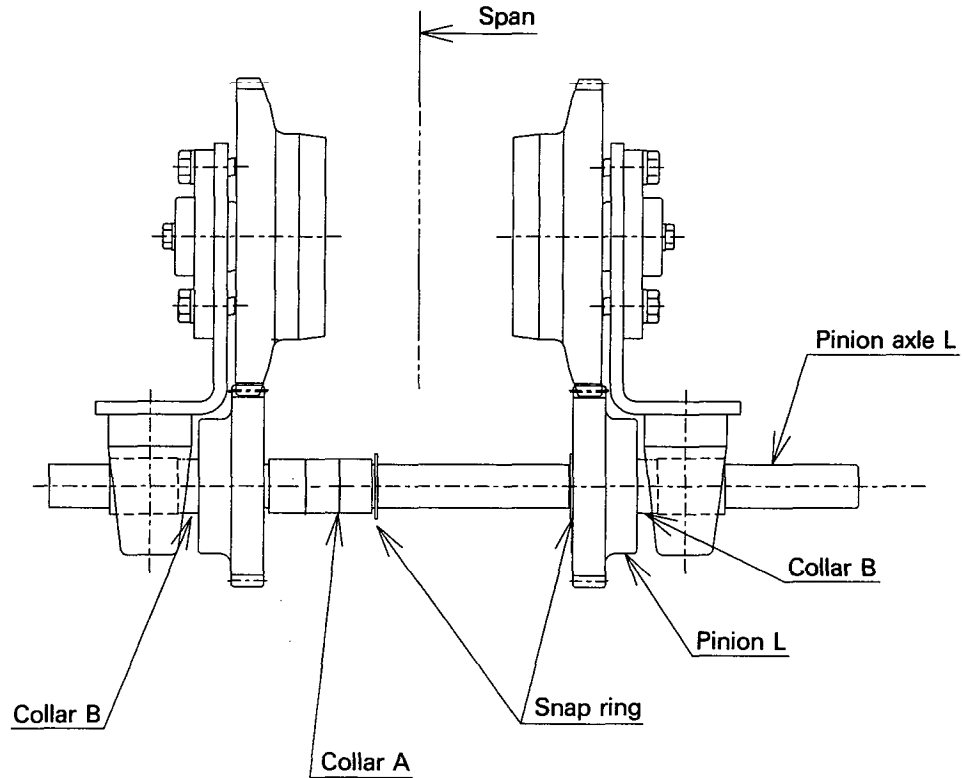

Fig. 20
Numbers of collar A determined by the travel rail width (T) is built in the pinion axle (Fig. 20) for adjustment of collar A, by referring to Fig. 20 and Table 13.